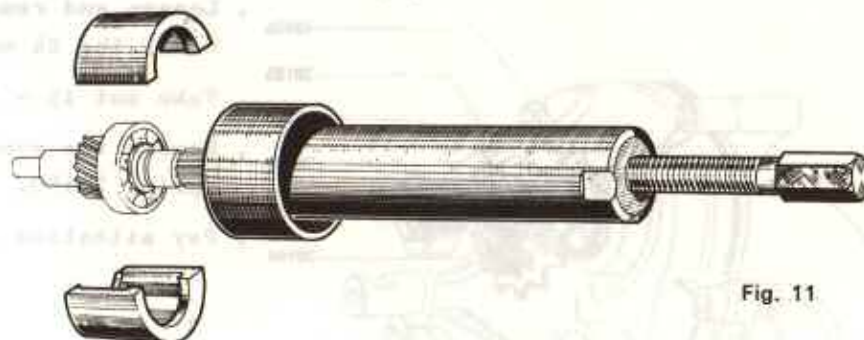

Fig. 11
- Extract the two bearings (20134 on primary shaft and 20135 on secondary shaft on the pulley side of the half shell) using the 11 mm shell extractor $\frac{MB - 1431}{VAR - 142/42 L}$ Fig. 11.